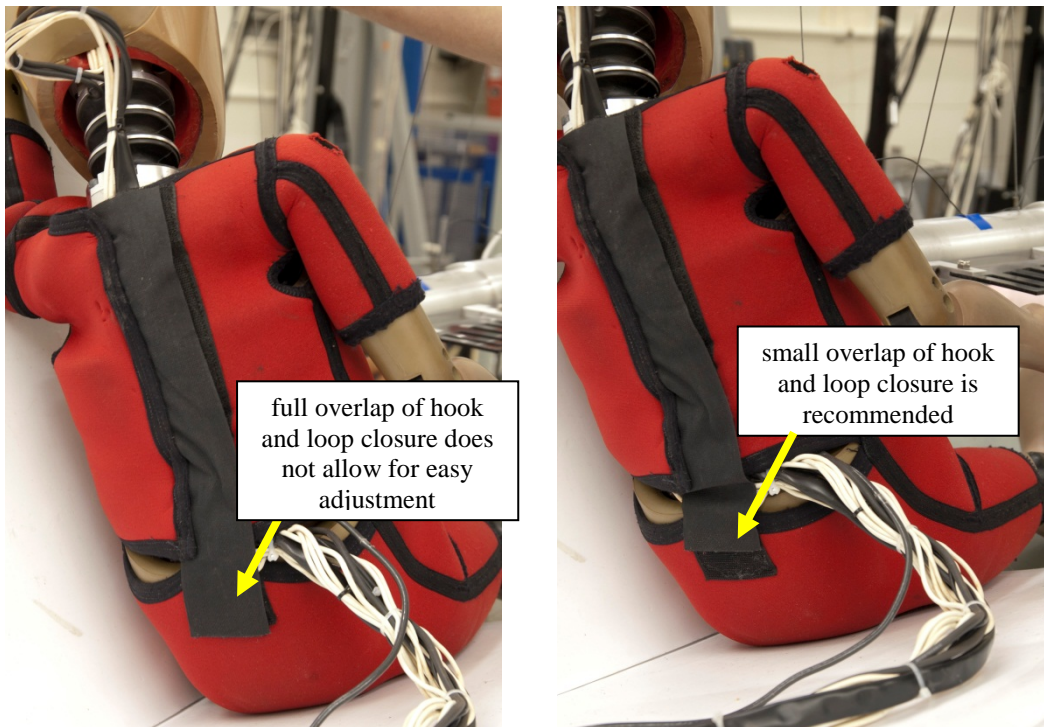

Figure 63. Proper umbilical placement and jacket closure
- Ensure that the instrumentation umbilical exits the dummy from the non-impact side of the pelvis. In addition, fastening the hook and loop closure which connects the thoracic part of the jacket to the pelvis portion with a small overlap allows for easier adjustment of the jacket (Figure 63).